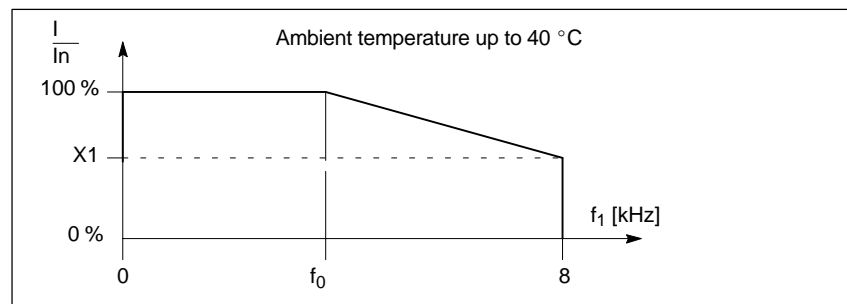

Fig. 4-2 Current de-rating depends on the inverter clock frequency
- 1) X1 = reduction factor of the current, current de-rating from inverter clock frequency f₀ of the power transistors (Fig. 4-2)
f₀ = inverter clock frequency1) X1 = reduction factor of the current, current de-rating from inverter clock frequency f₀ of the power transistors (Fig. 4-2)